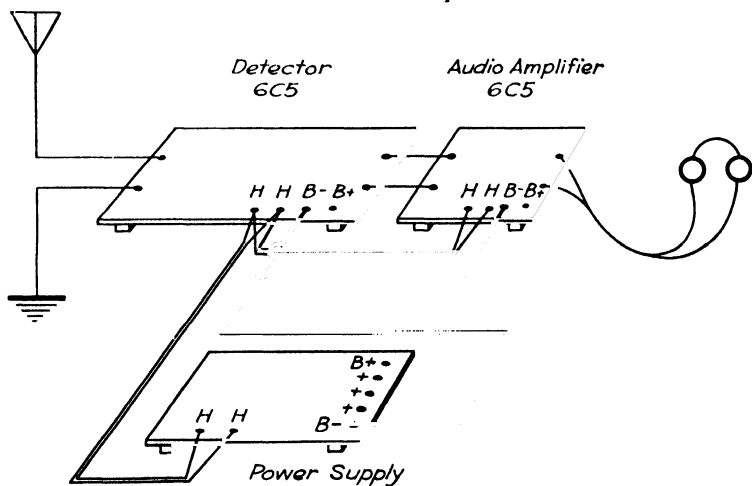

FIG. 307. Now connect the B-minus wire from the power supply to one board, then connect a B-minus wire between the two boards.
Step 2. Attach the B-minus wire from the power-supply board to both sets (see Fig. 307).